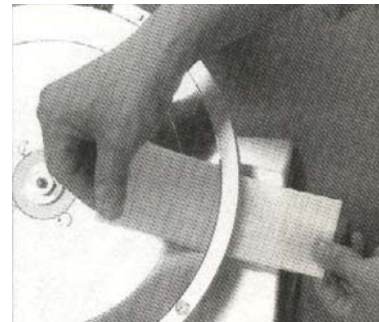

Fig. 12-1
7. The knife ring guard must now be cleaned. To clean the knife ring guard, soak a clean cloth in a mild detergent and warm water solution. Ring out excess water from cloth. Carefully insert the cloth between the knife and the knife ring guard as indicated by Fig.12-1. While holding the cloth between the knife and the knife ring guard, work it along the entire back side of the knife, between the knife and knife ring guard. Repeat this procedure as necessary. A nylon brush could also be used if preferred.